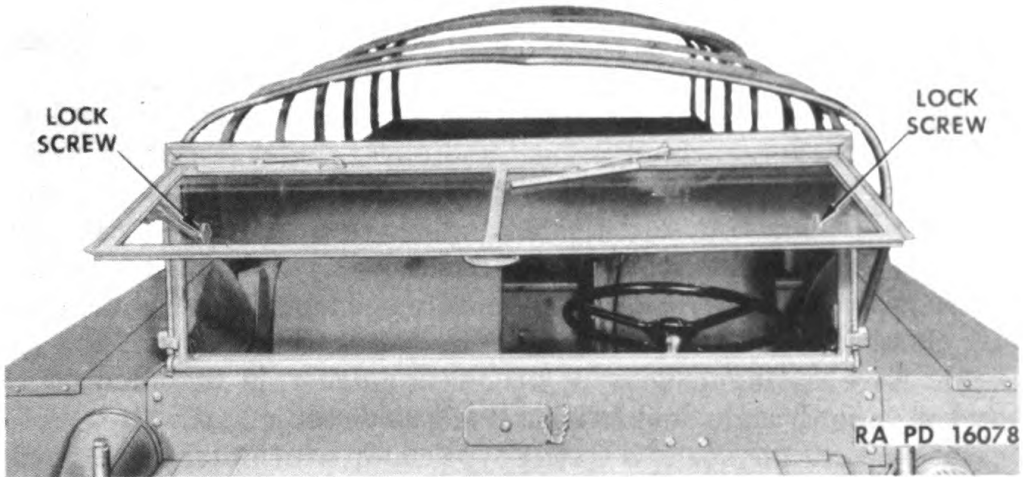

Figure 13—Windshield in Tilted Position
(1) **Windshield positioning.** Windshield can be placed in two positions, tilted or completely lowered. Fig. 13 shows windshield in tilted position. Two adjusting nuts, one on each side as shown in illustration, must be loosened before windshield can be placed in tilted position. Windshield can then be locked with nuts at desired